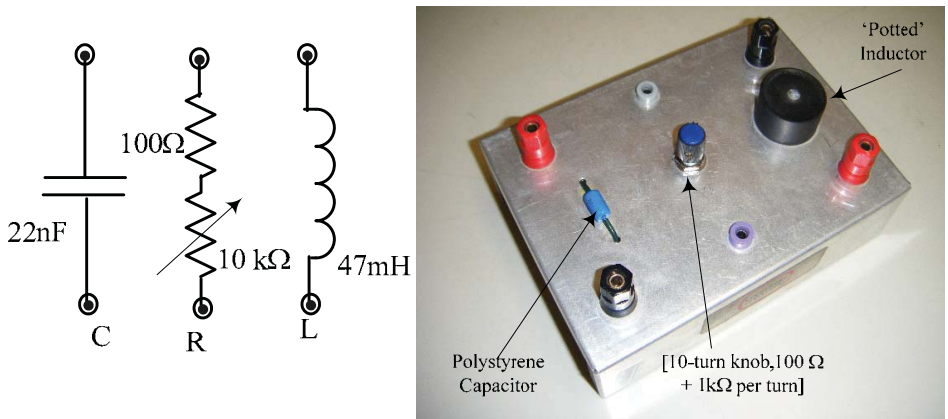

Figure 1.11 : RLC-Chassis and component values
**Experimental Circuit for AC experiments:** An aluminum chassis (the ‘RLC Chassis’) on which R, L and C elements are mounted, as shown in Figure 1.11, is used in the lab for familiarization with the use of the FG and the DSO in AC measurements.
where  $\omega = 2\pi f$  (radians/sec). Use the frequencies  $\omega_1$  and  $\omega_2$  and nominal values given for  $L$  &  $C$  given in Figure 1.11 and value used for  $R$ . Calculate the percent difference between the measured and theoretical values using the latter as reference.